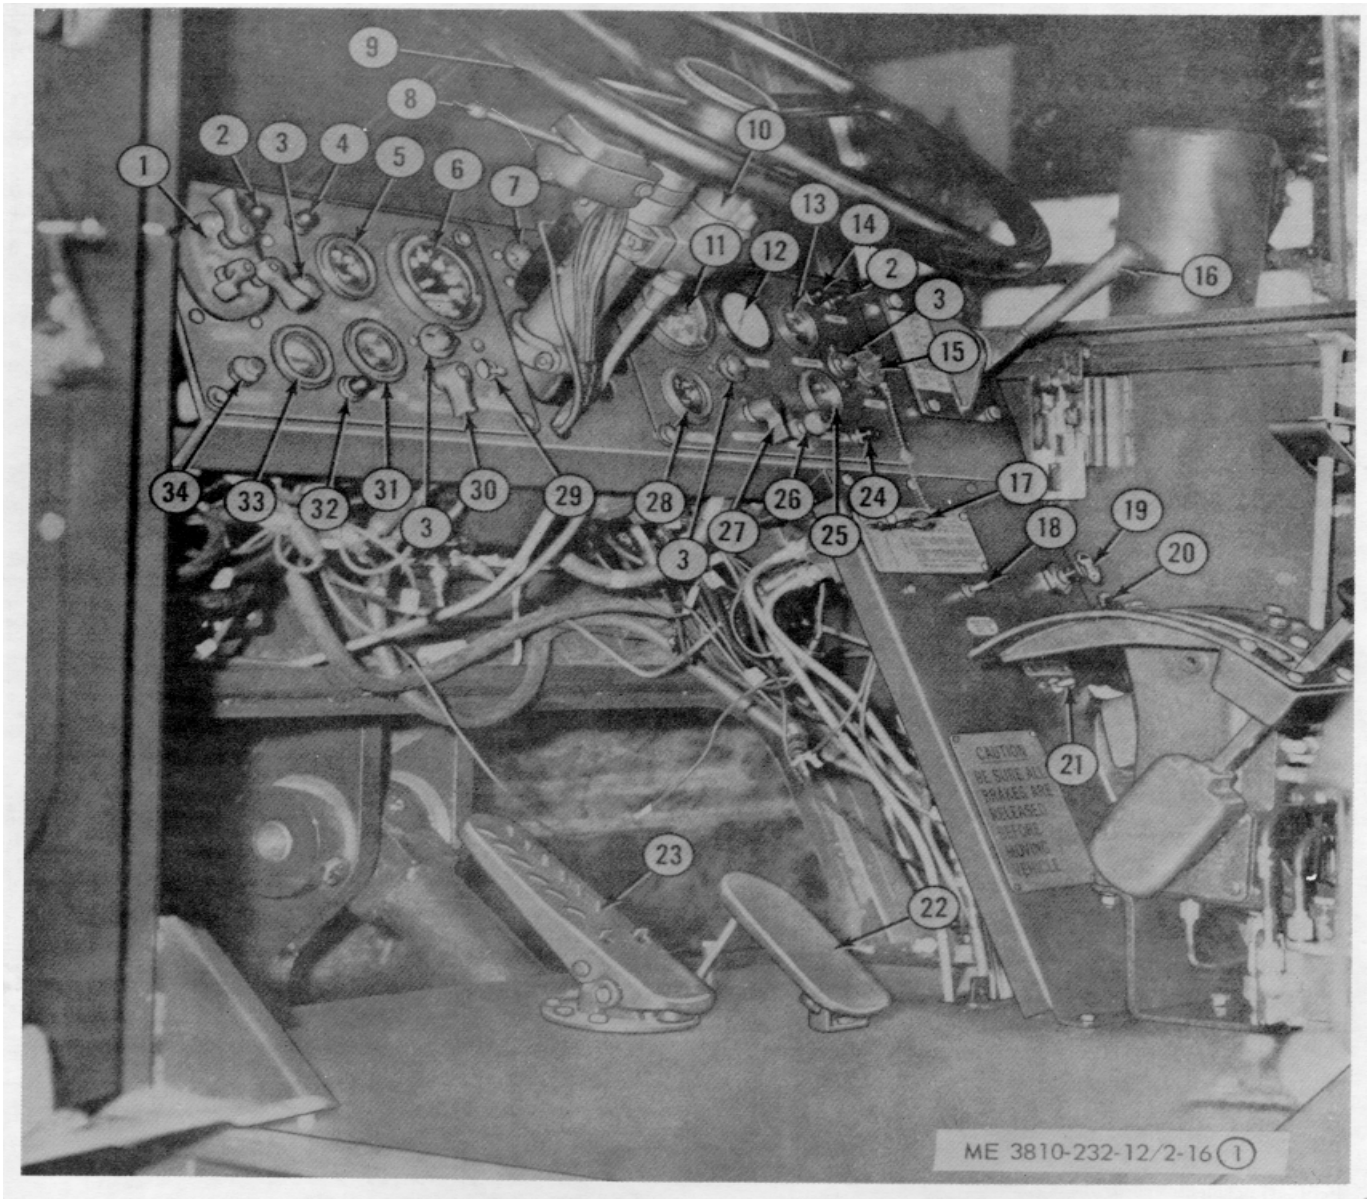

*Figure 2-15. Defroster fan and wind shield wiper (model 2380).*
(1) Manual wiper control. The manual windshield wiper control (fig. 2-15) is located on the wiper motor at the top of the operator's cab. It is a flat lever used to actuate the wiper blade manually in event of vacuum failure.
(2) Defroster fan (fig. 2-15). Located at the top left corner of the windshield. It is an electric motor driven, self-contained fan used to clear fog from the inside of the windshield. A control switch mounted on the motor mounting bracket controls operation.